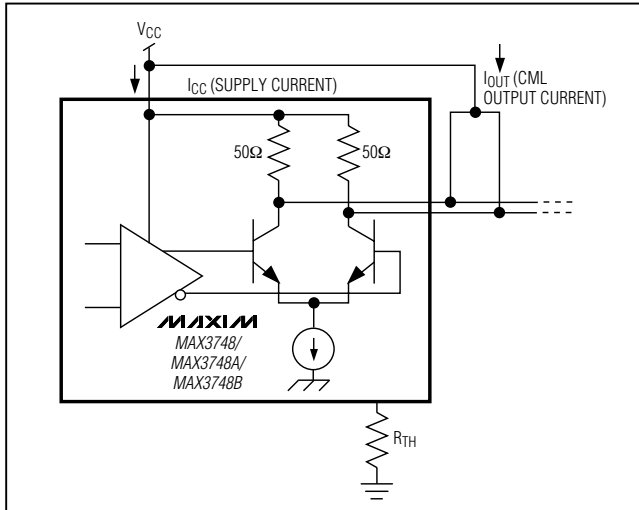

Figure 1. Power-Supply Current Measurement
**Note 6:** The supply current measurement excludes the CML output currents by connecting the CML outputs to a separate VCC (see Figure 1).